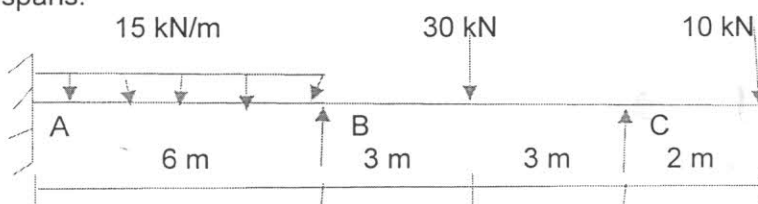

Fig. 4
4. Analyze the beam shown in Fig. 4 by stiffness method using displacement transformation matrix. Draw BMD and SFD. Assume uniform EI for all spans.